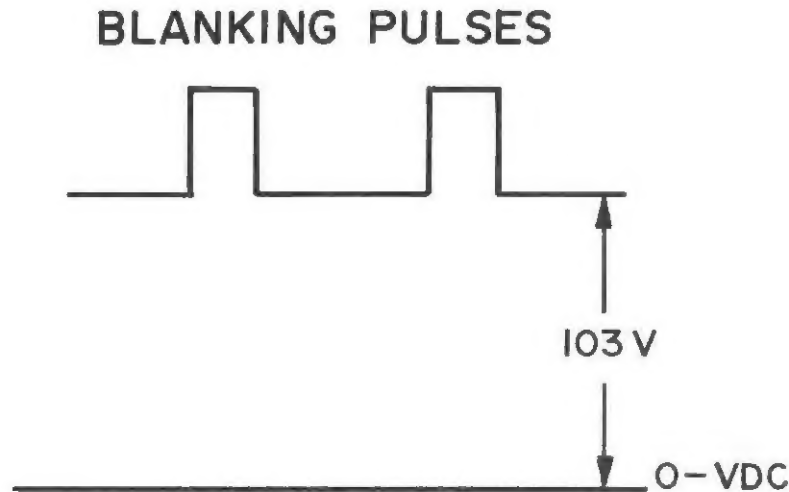

FIG. 10
7. If this white balance procedure is required because the CRT or neck board was replaced, then leave the contrast control at its original setting. If the contrast control is known to be grossly out of adjustment, then set it to its center of rotation. Adjust the brightness control VR6 to obtain the waveform shown in Figure 10. Now remove the Scope Probe.
13. With the oscilloscope connected to the collector of the lead color video output transistor (See Fig. 3), adjust the brightness control to obtain the waveform in Fig. 10.